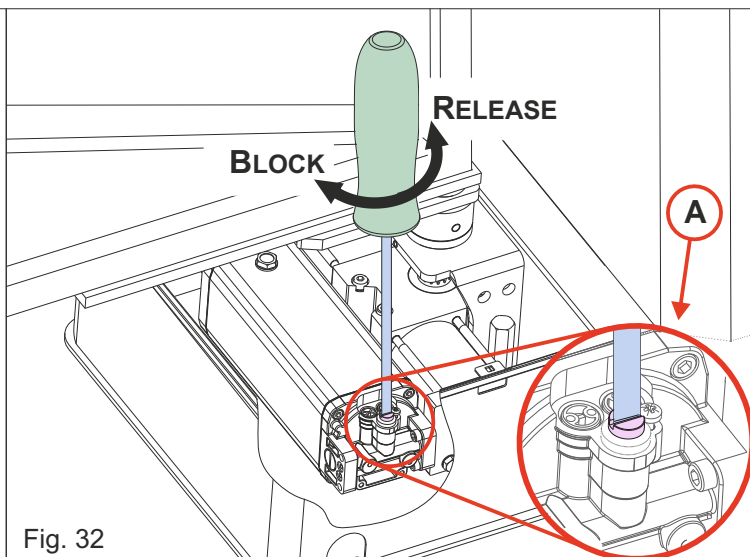

Fig. 32
THE OPERATOR IS EQUIPPED WITH AN INTERNAL RELEASE SYSTEM, WHICH CAN BE ACCESSED BY LIFTING THE BOX COVER AND ACTING ON THE SCREW «A» THROUGH A SCREWDRIVER (FIG. 32)
9.1. TO RELEASE: Using a screwdriver, turn the release screw «A» anti-clockwise for about 180° as shown in Fig. 32
9.2. TO LOCK: Using a screwdriver, turn the release screw «A» clockwise until it stops, as shown in Fig. 32